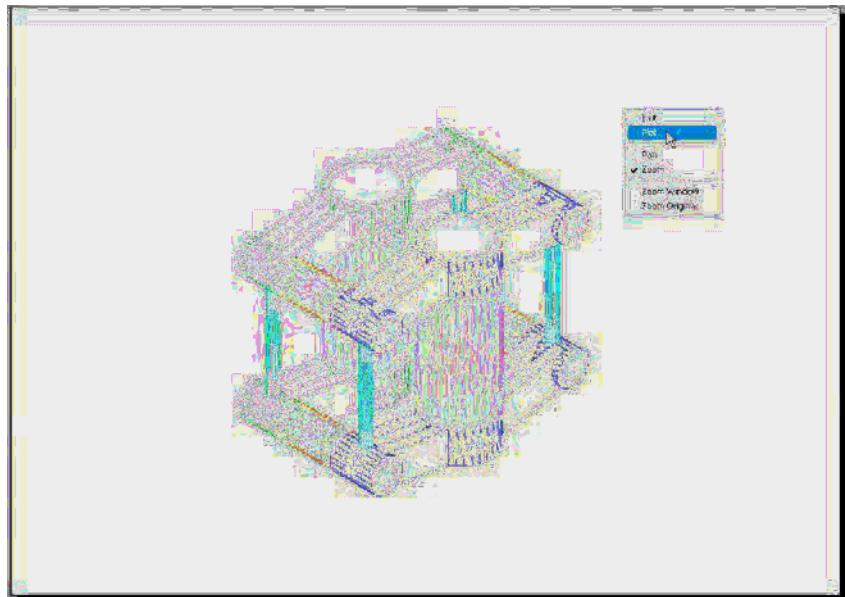

Fig. 19.10 Third example – Printing/plotting
Third example – Printing/plotting (Fig. 19.10)
4. If satisfied with the preview (Fig. 19.10) right-click and click on **Plot** in the menu which appears. The drawing plots.